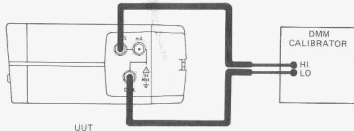

Figure 3-1. Voltage and Resistance Test Setup
(2) Select the 200-ohms range on the UUT.
(3) With input terminals still shorted, verify that the down arrow appears in the UUT display.
(4) Disconnect short from UUT input terminals and verify that the up arrow appears in the UUT display.
(5) Select the DC V function, 2V range on the UUT.
(6) Connect the equipment as shown in fig. 3-1.
(7) Program the DMM calibrator for a UUT input of -1.0 Vdc and verify that the minus (-) sign appears in the UUT display.
(8) Verify that the UUT bargraph segments 0, 5, 10, 15, 20, and the first segment above the 0 are visible.
(9) Program the DMM calibrator for a UUT display of 1.888 and verify that all segments of each digit appear in the liquid crystal display.
(10) Program the DMM calibrator so that each possible number appears in each digit of the UUT display (3-1/2 digit).
(11) Select the ohms function on the UUT and verify that all the bargraph segments are off.
(1) Select the DC V function on the UUT.
(2) Connect the equipment as shown in fig. 3-1.
(3) For each step in table 3-2 select the listed UUT range, program the DMM calibrator for the corresponding UUT input, and verify that the UUT displayed value is within the limits listed.
(1) Select the AC V function on the UUT.
(2) Connect a short between the COM and V-ohms input terminals on the UUT.
(3) Select each AC V range while observing UUT display. For each range, the indication shall be 000 (with appropriate decimal point) within 2 counts for the UUT digital and bargraph displays.
(4) Remove the short from UUT input terminals and connect the equipment as shown in fig. 3-1.
(5) For each step in table 3-3 select the listed UUT range, program the DMM calibrator for the corresponding UUT input, and verify that the UUT displayed value is within the limits listed.
(1) Select the ohms function on the UUT.
(3) For each step in table 3-4 select the listed UUT range, program the DMM calibrator for the corresponding UUT input, and verify that the UUT displayed value is within the limits listed.